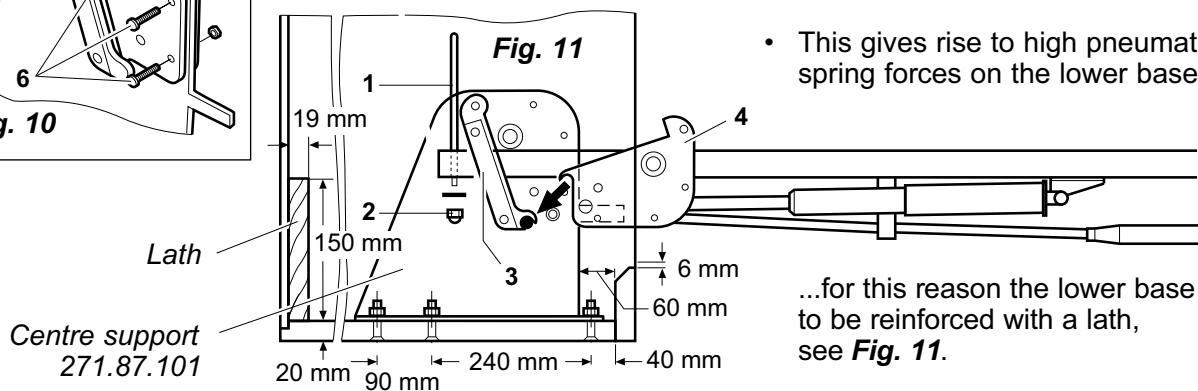

Fig. 11
- With double beds the centre support must be screwed to the lower base with 6 countersunk-head screws M10 x 40 mm, see **Fig. 11**. A minimum gap of 6 mm must be maintained between both beds.
...for this reason the lower base has to be reinforced with a lath, see **Fig. 11**.